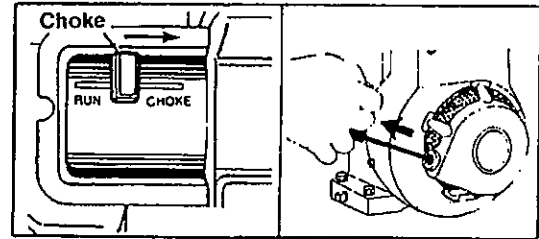

FIGURE 6
2. Make certain the forward clutch handle is in the neutral position (released). See figure 6.
3. Place the throttle control lever in FAST position. See figure 6.
5. Grasp starter handle (see figure 6) and pull rope out slowly until engine reaches start of compression
1. Move throttle control lever to STOP position. See figure 6.